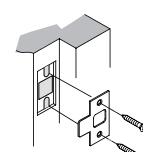

Figure 4e
- Install Strike Plate using 2 strike plate screws (D) provided (Figure 4e).